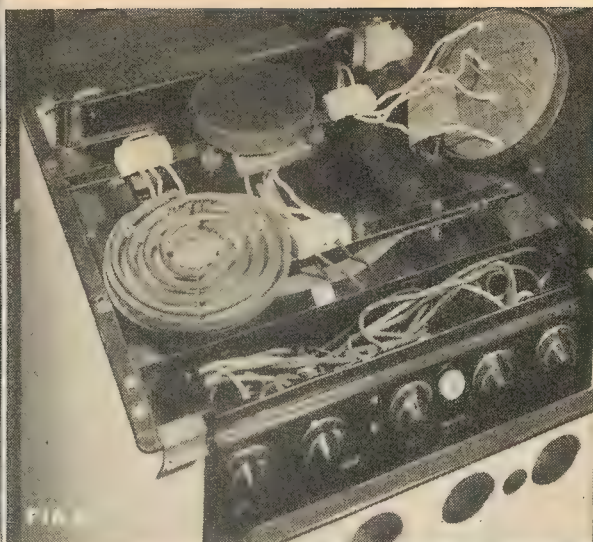

FIG. 2
3. HOB - Cast, hinged at rear and secured in front behind griller compartment door with knurled thumb screw. Remove splash back (Model 2009D or fascia panel (Model 2011) before raising hob. (Fig. 2.)
4. FUSES - Accessible by lifting hob and removing fuse cover at rear (Fig. 2.)
6. HOTPLATES - Cast or radiant, plug-in type with earth pin (Fig. 2.)
Griller-hotplate, cast, plug-in type with earth pin (Fig. 2.)
3. Hob - Heavy gauge steel pressing, permanent fixture with detachable section around hotplates, Fig. 2.
6. Hotplates - Radiant or Cast, plug-in type. Earthed centre pin. Fig. 2.
3. Hob - Heavy gauge sheet steel pressing; removable by unscrewing two self-tapping screws from brackets under the front of hob, lifting front of hob clear of hotplates sliding back to clear two brackets at rear of range. Fig. 2 shows hob removed exposing brackets on each side of switches. NOTE: On some models where the front brackets are located behind fold in front of hob, it is necessary to remove the front securing screws and the brackets at rear of range before hob can be detached.
4. Fuses - Behind switch panel at front. Accessible by removing drip tray as shown in Fig. 2.
6. Hotplates - Pigtail connections to porcelain terminal blocks located below hob. Plug-in earth with locating pin on cast hotplates, radiant hotplates secured with 5/16" dia. stud and nut to support bracket. To replace hotplates, remove hob. Fig. 2.
8. Switches and Thermostat, etc. - Located on mounting panel behind front switch panel. To replace switches, etc. remove hob, drip tray, unscrew two self-tapping screws securing cover above switches, and remove four self-tapping screws securing switch mounting panel to range (Fig. 2.)
12. Other Features - Removable Drip Tray. (Fig. 2.)
switches, etc., remove hob, drip tray, unscrew two self-tapping screws securing cover above switches, and remove four self-tapping screws securing switch mounting panel to range. Fig. 2.
Other Features—Removable drip tray. Fig. 2.
3. Hob. Heavy gauge steel pressing. Detachable by lifting. (Fig. 2. shows range with hob removed).
5. Fuses. Located behind central panel at rear of hotplates. Accessible by lifting hob and removing two screws from fuse cover. (Fig. 2.)
7. Hotplates. Radiant, plug-in type with earth pin. (Fig. 2.) Reflector also acts as cradle.